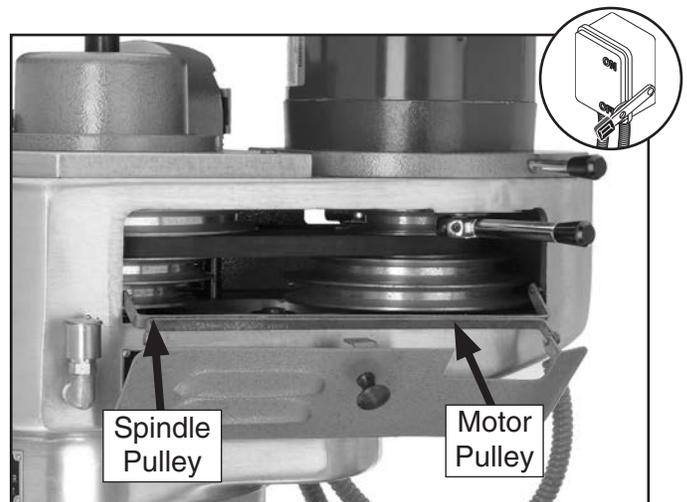

Figure 30. Model G9901/G9902 side belt cover removed (right side shown).
2. Remove the two side belt covers to access the V-belt and pulleys (see **Figure 30**).